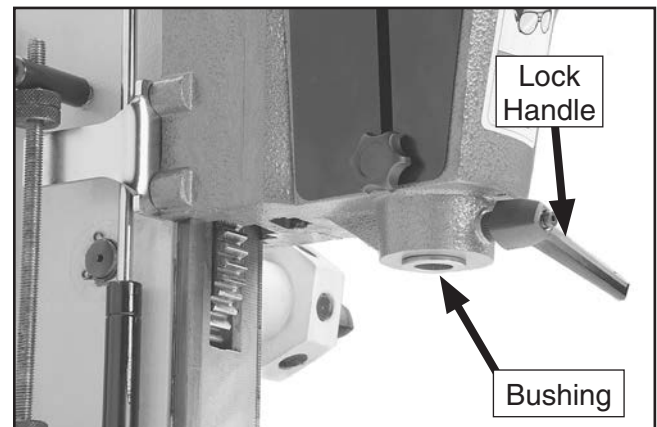

Figure 12. Chisel bushing.
1. Loosen the lock handle (**Figure 12**), insert a bushing into the socket with the hole facing forward, then tighten the lock handle.